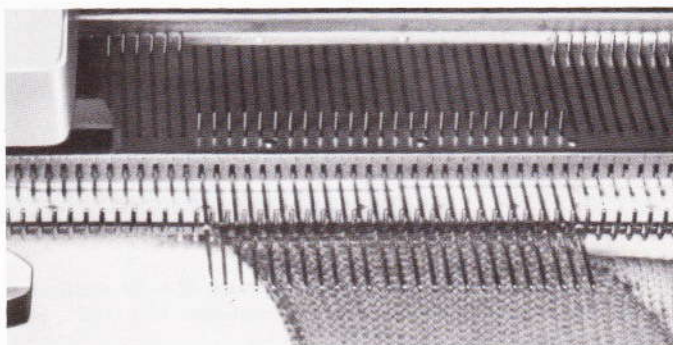

Fig. 162
7. — Push carriage from right to left (fig. 162). **SET RETURNING LEVERS ON 'normal'.**